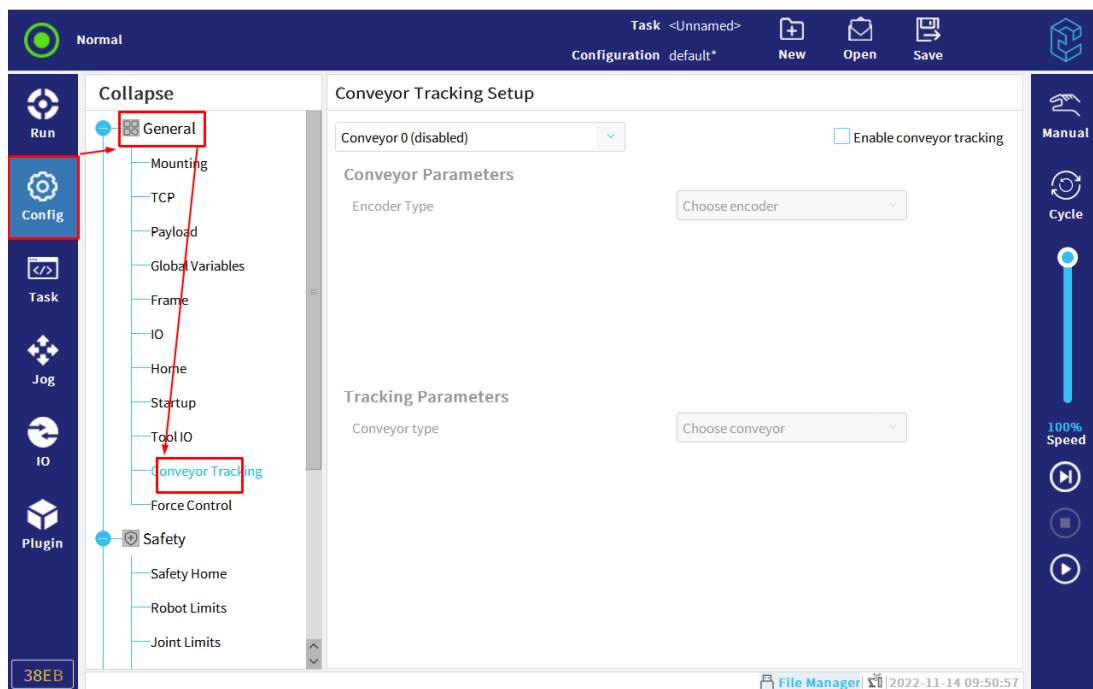

Figure 3-57 : Conveyor tracking
1. Click "Config > General > Conveyor Tracking" to enter the "Conveyor Tracking Setup" interface, as shown in **Figure 3-57**.